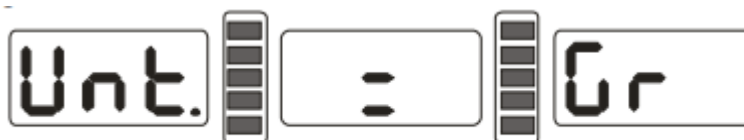

Figure 12-1
12.1 Press STOP key and a+ key or a-, display ect figure 12-1, denotation currently maund is gram.